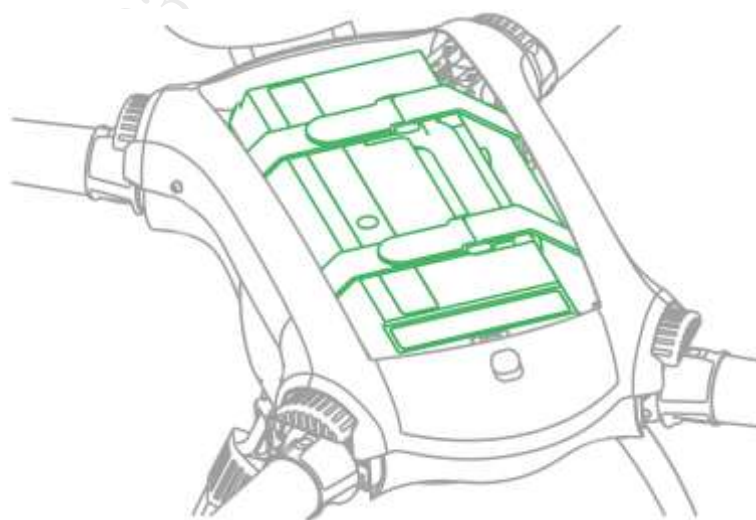

Figure 3-18
Step 2 Put the battery into the aircraft horizontally, fasten the fixing band firmly, as shown in Figure 3-18.